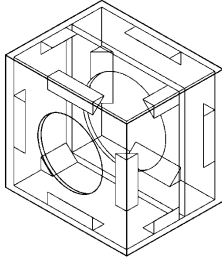

Fig. 1
9. Use 2 or 3 layer MDF and bracings (See Fig.1) for reinforcing speaker box for best performance if possible. Use 21mm (3/4 inch) thick MDF or HDP.